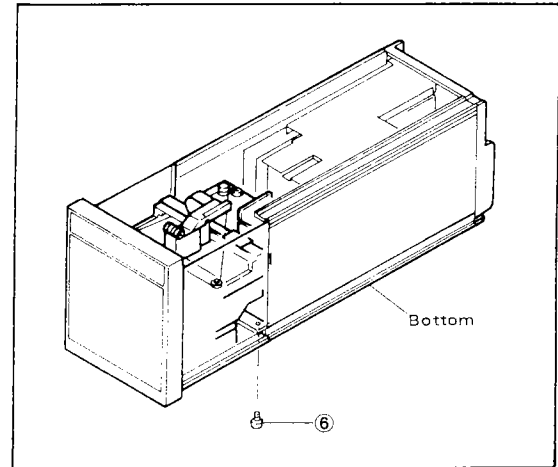

Figure 10-3. Removing Two Screws from the Recorder Bottom.
- (5) Position the pen carrier as far left as possible and then lay down the recorder unit with the keyboard facing up (see Figure 10-3). Remove two screws (number 6).